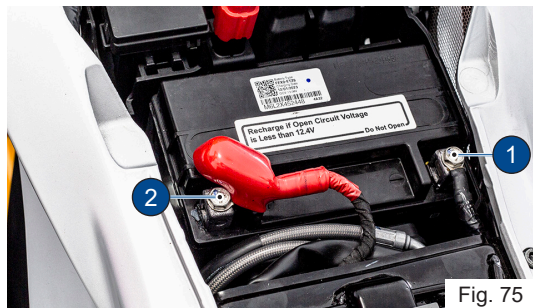

Fig. 75
- Disconnect the negative terminal (1) first followed by the positive terminal (2) (ref. Fig. 75). Carefully take out the battery.